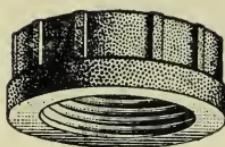

FIG. 40
**52.** A **cap** is shown in Fig. 40. It is used to close the end of a pipe, and consists of a hollow casting threaded inside. Some caps are made with a square projection on the back; others are plain, and others are hexagonal on the body. The cap shown has short ribs to allow the pipe wrench to get a good hold in screwing on the cap.